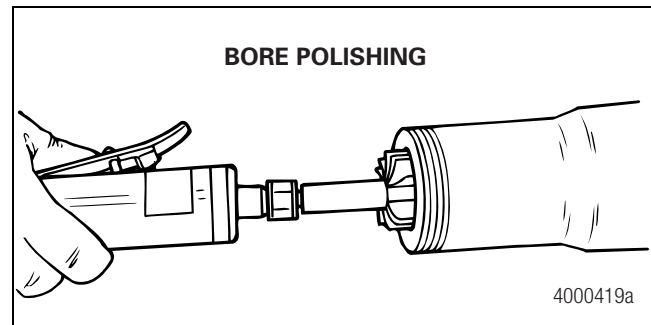

Figure 2.10
- Polish the spindle bore to remove all adhesive residue left from the old spindle plug and any metal burrs or sharp edges from the spindle bore surface. Figure 2.10.